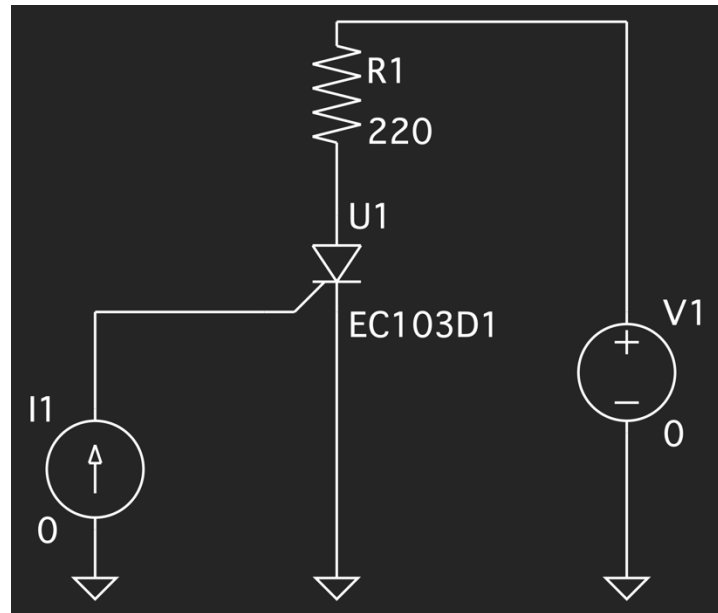

Fig. 1.6 The experimental circuit in plotting the device's IV curve
1. Construct the experimental circuit shown in Fig. 1.6.